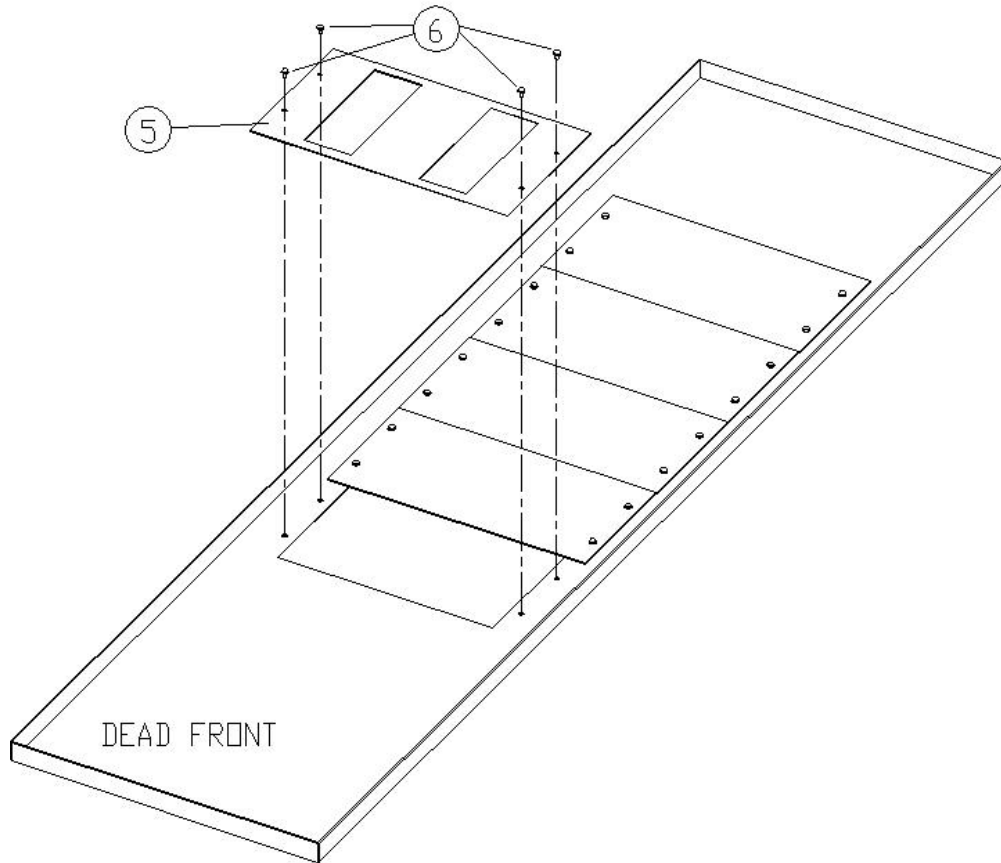

Figure 3. Attaching the shield insert to the shield for TEY breaker installation in A-Series® II Panelboards.
7. Place the filler plate [5] over the dead front so that the four same-size holes line up with the threaded holes of the dead front, as illustrated in Figure 3. Fasten filler plate to the dead front with four #10-32 x $\frac{3}{8}$ screws [6] tightened to 27-36 in-lb.